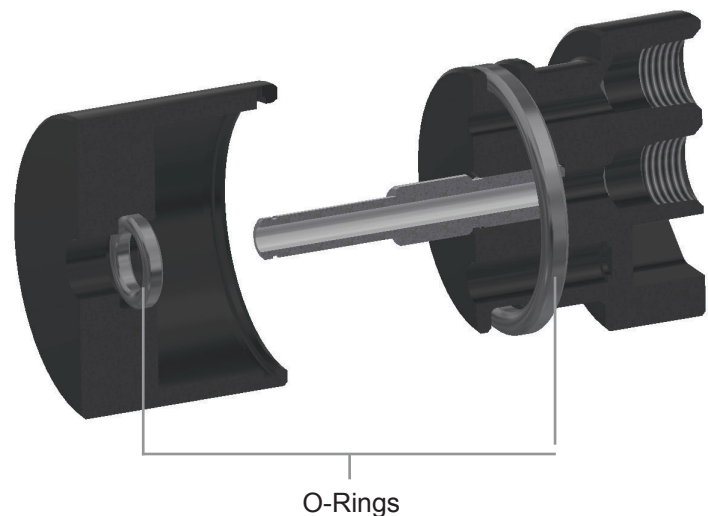

Figure 11. Removal of Internal O-Rings
4. Use a small pick to remove the internal o-rings. See Figure 11.